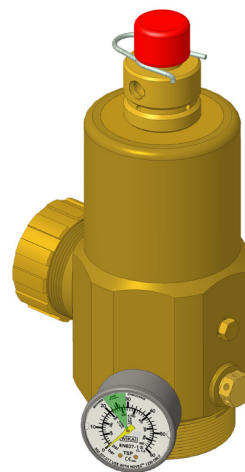

FIGURE 6-21
3. Carefully screw the actuator to the top of the electrical actuator or directly onto the master container valve. See Figure 6-21.